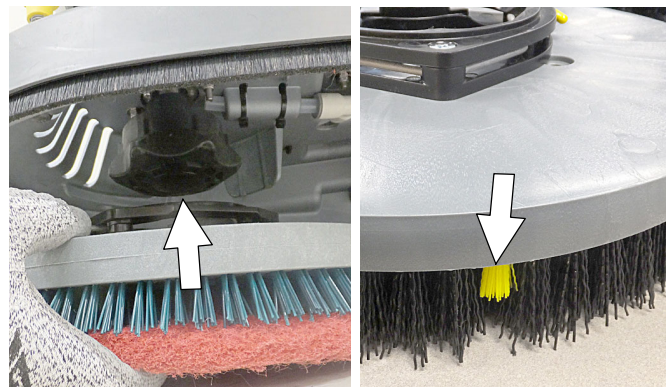

FIG. 11
4. Align the pad driver or brush under the motor hub and push it upward to engage hub (Figure 11). Replace pads or brushes when they no longer clean effectively or when the bristles on the brush disk are worn to the yellow indicator (Figure 11).